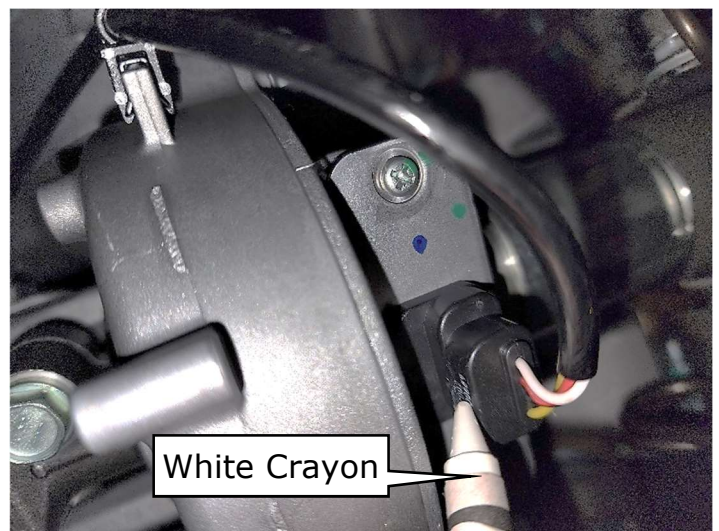

Figure 11
10. Highlight the lot code of the steering column torque sensor. (Figure 11)